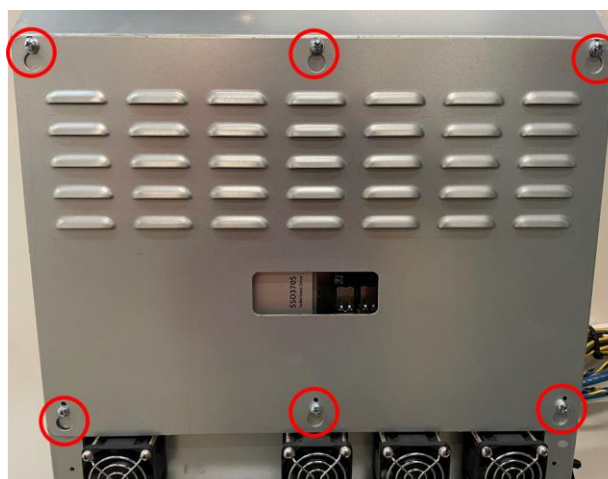

Figure 2
2. To remove back cover, loosen six screws using Phillips Screwdriver #2. Once loosened, lift and pull out the cover as shown in **Figure 2**.